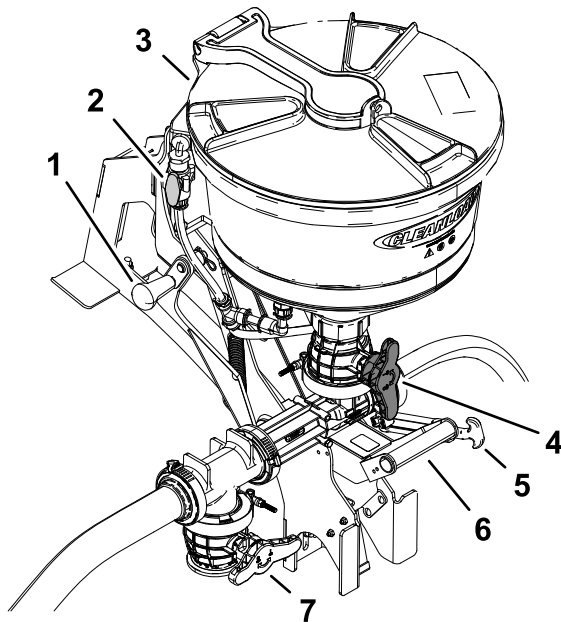

Figure 42
5. Open the hopper valve (red knob) located on the bottom of the hopper (Figure 42).
1. Use the lower handle to lower the eductor (Figure 42).
2. Open the lid to check for foreign objects which may hinder performance or contaminate the system (Figure 42).
2. Open the hopper valve (Figure 42).
- B. Open the flush valve and rinse the hopper of the eductor for 20 seconds (Figure 42).
- C. Close the flush valve (Figure 42).
6. Raise the eductor and secure it with the transport strap (Figure 42).
7. Close the eductor shutoff valve and the hopper valve (Figure 42).
3. Close and lock the hopper lid by turning the cover clockwise (Figure 42).
6. Return the eductor to the transport position, and secure it with the transport strap (Figure 42).